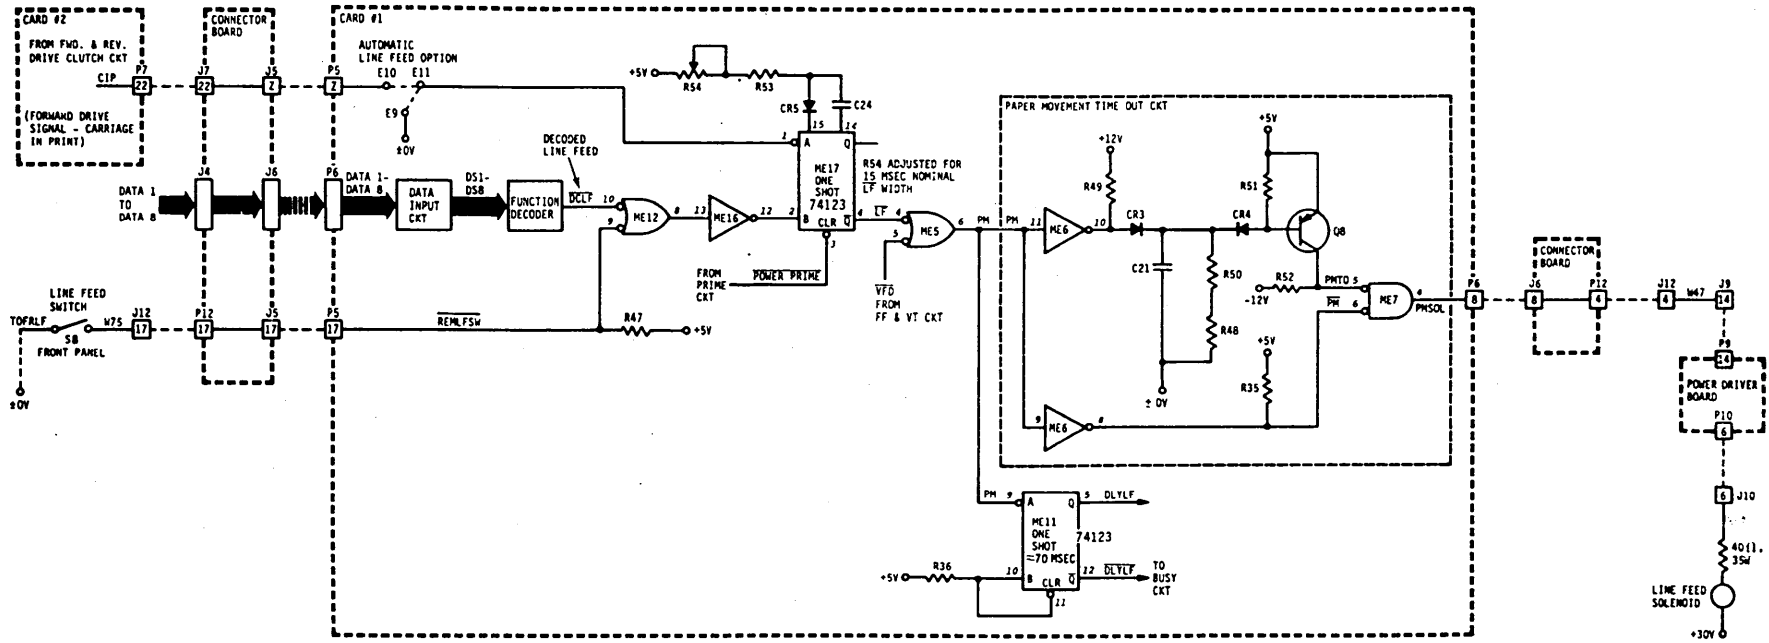
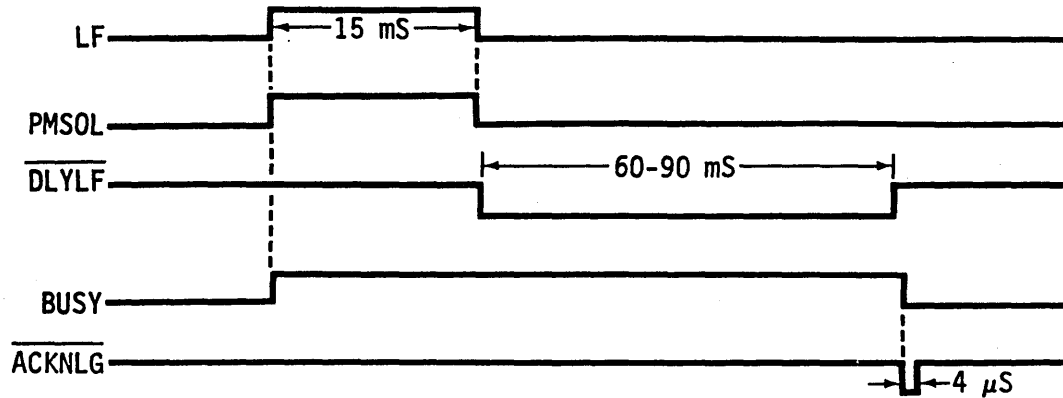

Figure 4-21. LINE FEED CIRCUIT
Figure 4-22. LINE FEED TIMING
4.6.1 LINE FEED (FIGURE 4-21, CIRCUIT; FIGURE 4-22, TIMING)
4.6.5 PAPER TIME OUT CIRCUIT (FIGURE 4-21)